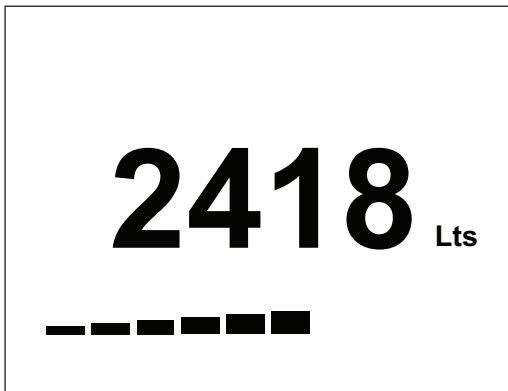

Figure 1: LCD – Main Screen
- When the control panel is switched on, the LCD 'Main Screen' will appear, as shown in Figure 1 below. The numeric indicator shows the volume of liquid remaining in the tank, in litres. The bar chart below the number is a visual indication of the tank's volume, each bar represents 1/10th of the volume (ullage).